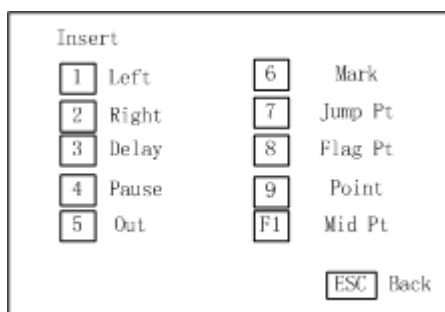

Fig. 3-19: Teaching Insert—Point Selecting Interface
- Firstly, select a point at Points List interface. And then, press **F1** or **+/-** into the “Teaching Insert—Point Selecting Interface” (Fig. 3-19).